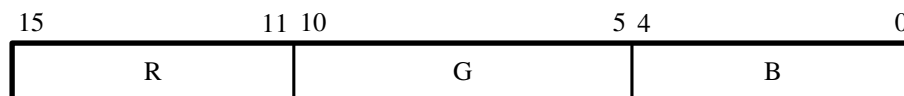

Figure 9. 16-bit RGB Color Space.
- 16-Bit RGB — This format uses 5 bits for red, and 6 bits for green and 5 bits for blue as shown in Figure 9. This mode is defined as 16 bits per color and one color plane.